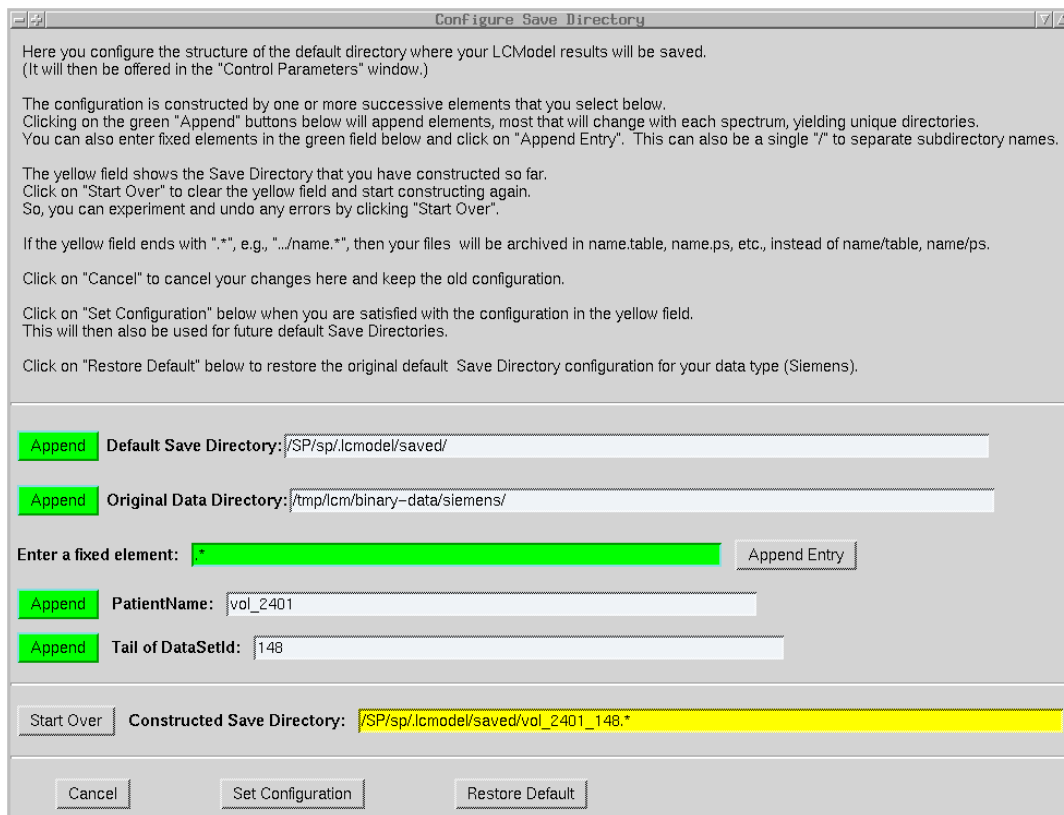

Figure 7.5: The window for permanently reconfiguring the structure of (Siemens) Archive Directories.
Normally, the .PS file is a file called `ps` in the Archive Directory. The following Siemens example using Fig 7.5 shows how to archive them as extensions to filenames.
- (1) Click the green “Append” button next to “Default Save Directory”.
- (2) Click the green “Append” button next to “PatientName:”
- (3) Enter `_` (underscore) in the green field next to “Enter a fixed element”, and then click the “Append Entry” button to the right.
- (4) Click the green “Append” button next to “Tail of Data SetId:”.
- (5) In the green field next to “Enter a fixed element”, delete the underscore and enter `.*` (period then asterisk), and then click the “Append Entry” button to the right. This is the stage shown in Fig 7.5.
- (6) If you are satisfied with the structure shown in the field next to “Constructed Save Directory:”, then click the “Set Configuration” button.